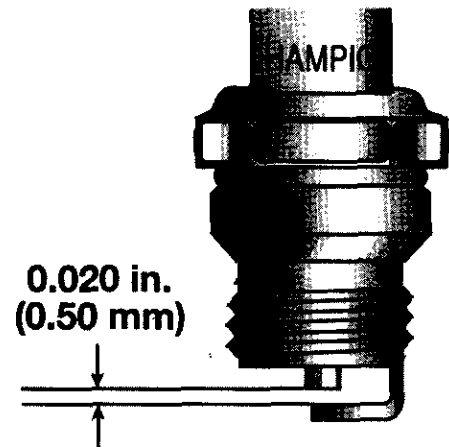

Fig. 22
Use a Champion DJ7Y spark plug (or equivalent). Correct air gap is **0.020 in. (0.50 mm)**. Remove plug after every **50 hours** of operation and check its condition (Fig. 22).
3. Set the air gap at **0.020 in. (0.50 mm)** using a wire feeler gauge (Fig. 22). Install a correctly gapped spark plug into the cylinder head. Torque to **110-120 in•lb (12.3-13.5 N•m)**.